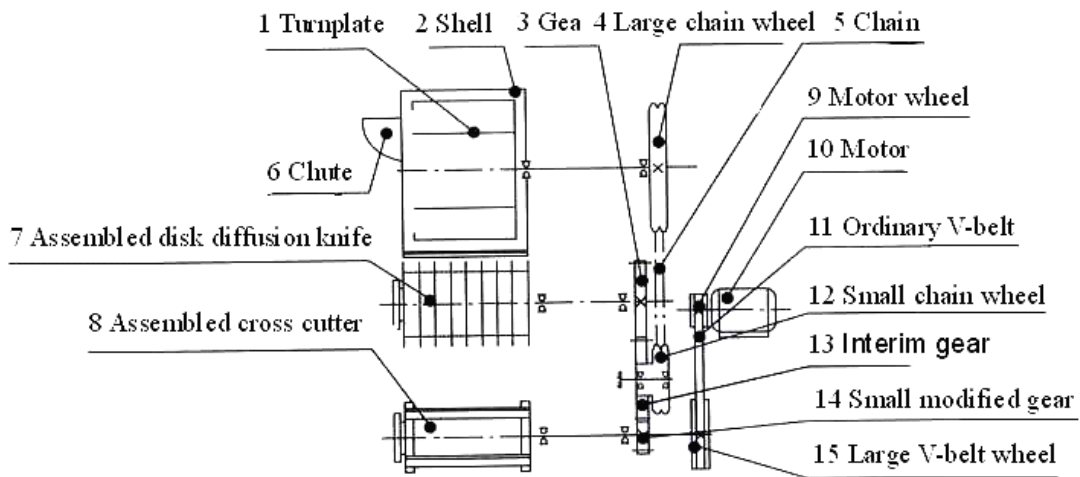

Fig. 2 Sketch of transmission principle of cuber
2.1 Details of structure characteristics can be seen in sketch of cuber (Fig. 1) and sketch of transmission principle (Fig. 2).